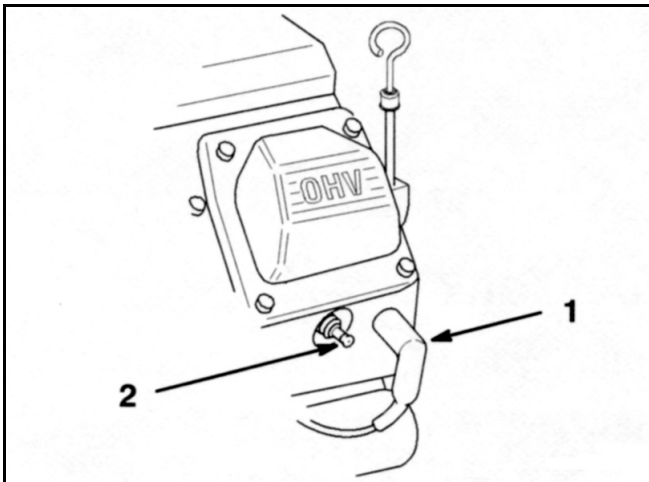

Figure 13
2. Pull the wire(s) off the spark plug(s) (Figure 13). Now clean around the spark plug(s) to prevent dirt from falling into the engine and potentially causing damage.
3. Push the wire(s) onto the spark plug(s) (Figure 13).